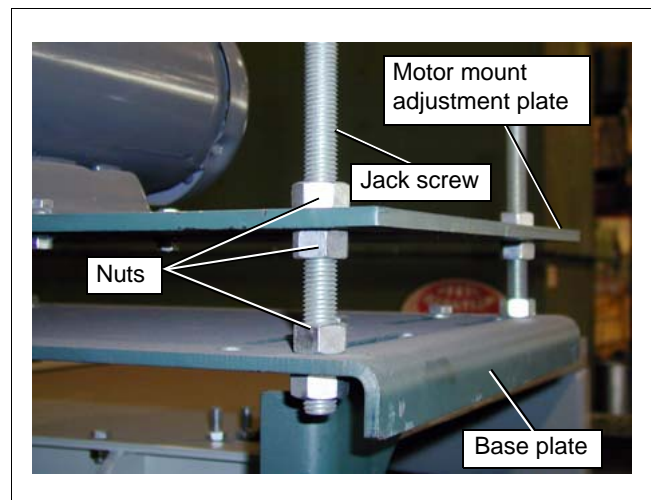

Figure 6Q
- Thread nuts onto jack screws. (See Figure 6Q.) Place bolt through motor mount bracket and base plate. Thread another nut onto jack screws to secure. Repeat for three (3) remaining jack screws.
- Thread another nut onto all four (4) jack screws. Place adjustment plate onto jack screws. Thread another nut onto each jack screw to secure adjustment plate. Use these nuts to adjust the motor height.